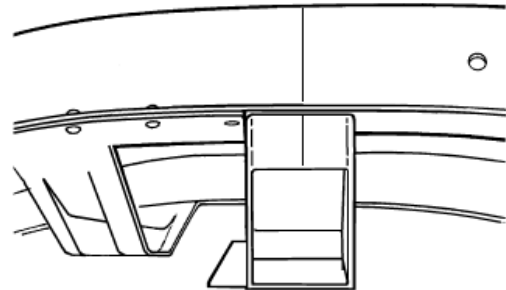

Figure 4- Crossmember Install
5. Next slip the crossmember up into the frame, center it on the scribed axle center line (**Figure 4**). If it does not fit, grind the sides of the crossmember until you can get the crossmember in place, as shown. Make sure the crossmember is seated fully on the underside of the actual frame lower surface and not the remaining flange of the old front crossmember section you trimmed out. **Figure 4** shows this clearly. Tack weld in place, check location, then weld in place, welding all around both ends, top, sides, and bottom.